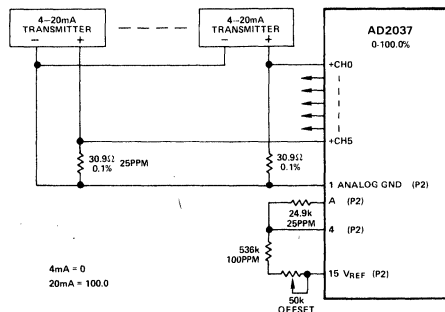

Figure 13. Process Monitor
As shown in Figure 13, the AD2037 provides scanning and digital readout for six (6) standard 4-20mA current loops. The AD2037 is programmed for 0-100.0% Readout. Other readout ranges can be accommodated by changing the Gain and Offset programming resistors.